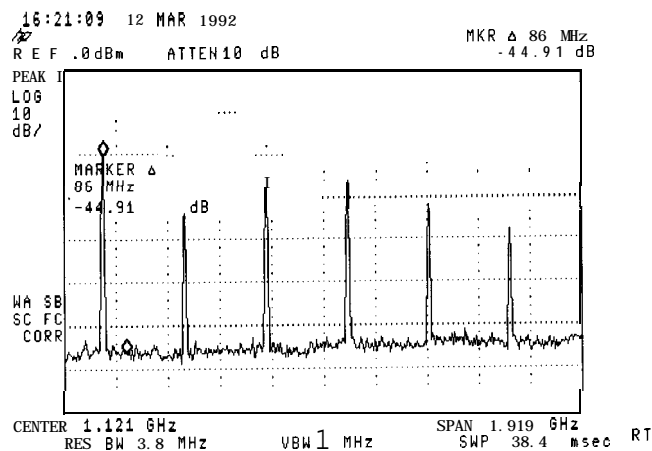

Figure 3-14. Using the Marker to Peak/Peak Function
5. The **MARKER →PK-PK** softkey can be used to find and display the frequency and amplitude difference between the highest- and lowest-amplitude signals. To use this automatic function, press **(MKR→)**, More 1 of 2, **MARKER →PK-PK**. See Figure 3-14.